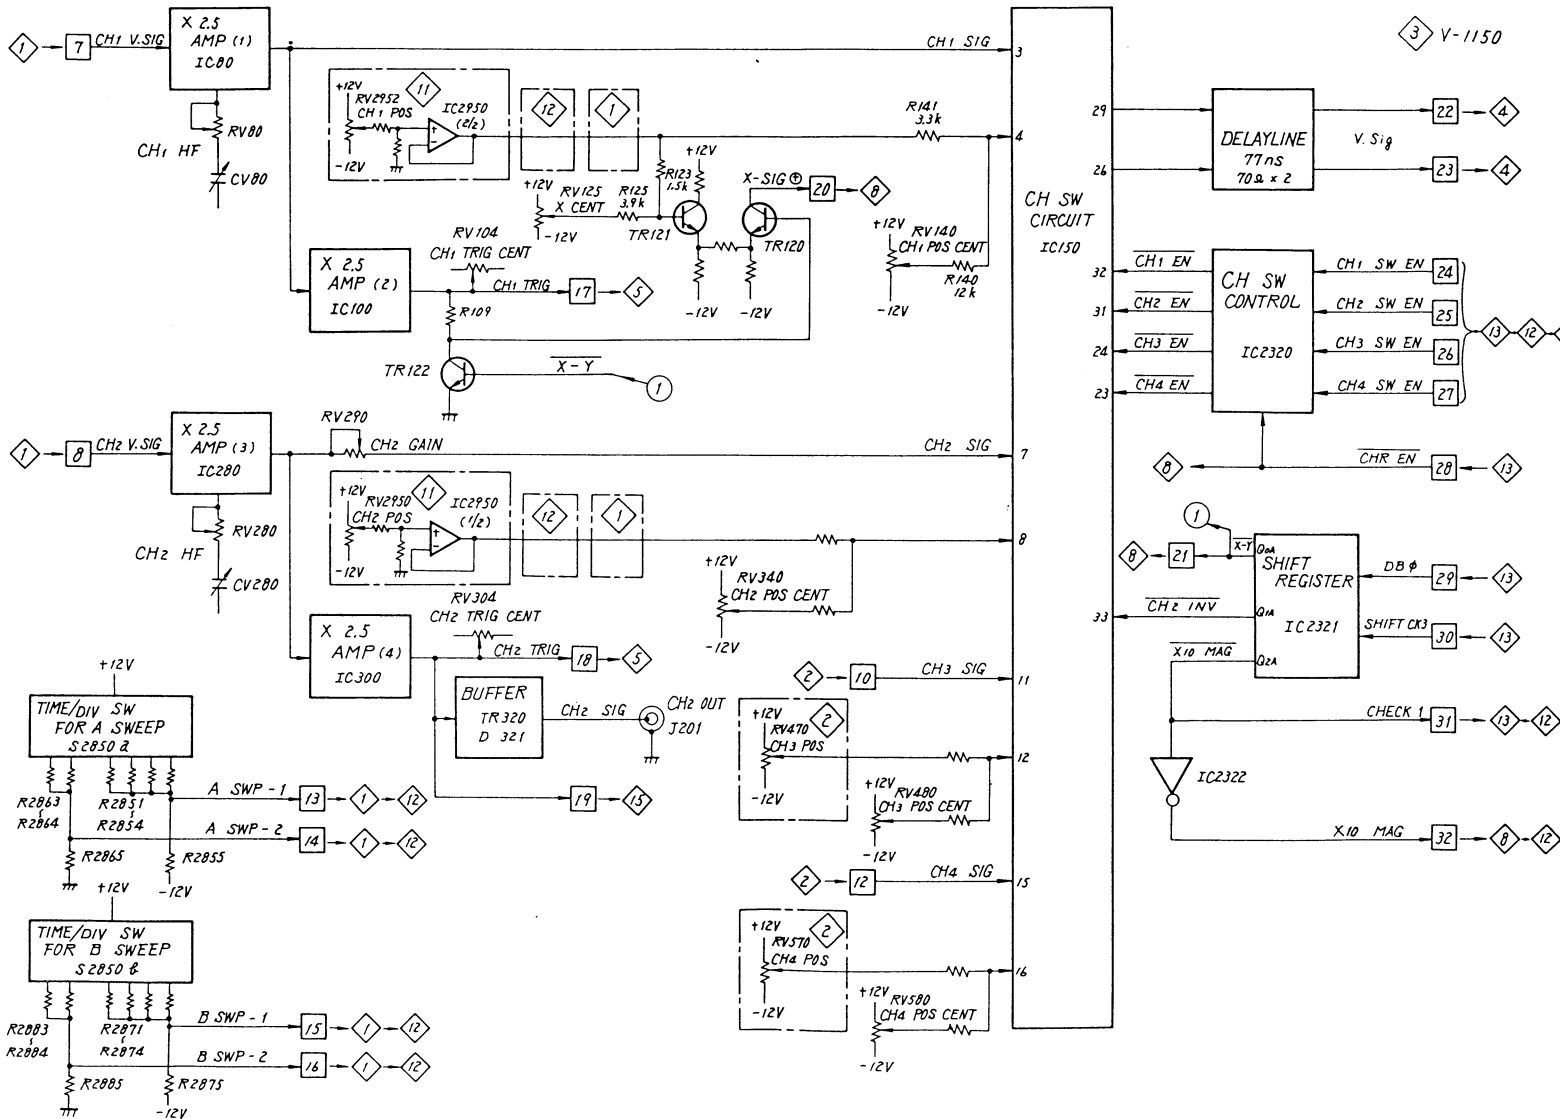

Fig. 6-4
Figure 6-3 shows a detailed block diagram of this circuit. This circuit consists of a CH3 circuit and a CH4 circuit. Since the both circuits are identical, the description is made on the CH3 circuit. CH3 POS RV470 and CH4 POS RV570 are described in the Figure 6-4 Detailed Block Diagram of 3.
Figure 6-4 shows a detailed block diagram of this circuit. The CH1 V signal fed from [7] is amplified to 2.5 times the supplied voltage by X2.5 AMP(1) IC80 and fed to pin 3 of CH SW CIRCUIT IC150. Part of the amplified signal enters X2.5 AMP(2) IC100 and is further amplified to 2.5 times the supplied voltage.